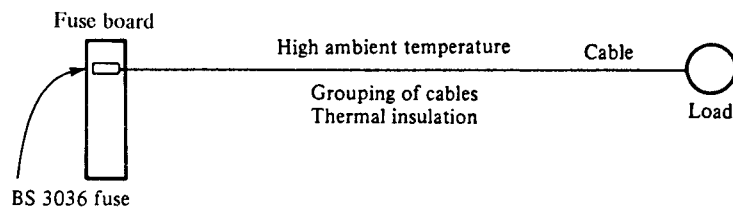

Fig. 18.1
- 1 If the cable in Fig. 18.1 ran for the whole of its length, grouped with others of the same size in a high ambient temperature, and was totally surrounded with thermal insulation, it would seem logical to apply all the CFs, as they